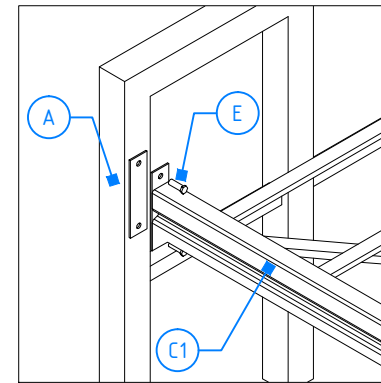

Fig. 1
Place the bottom platform (C1) in to the holes of headboard (A) and footboard (B) and securing them with the supplied screws (E). Fig 1.